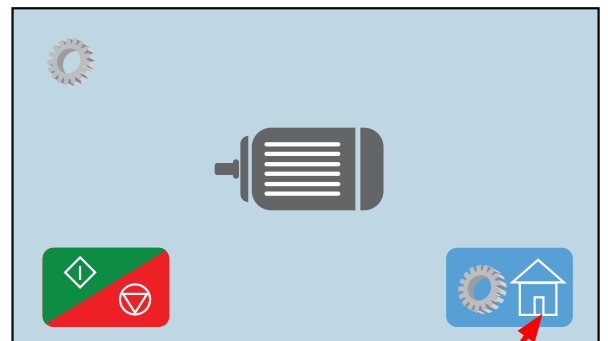

Fig. 38
- Press the Start/Stop icon  to test that the motor is working properly (Fig. 38).
- To exit, press the Service Mode Home icon  (Fig. 38).